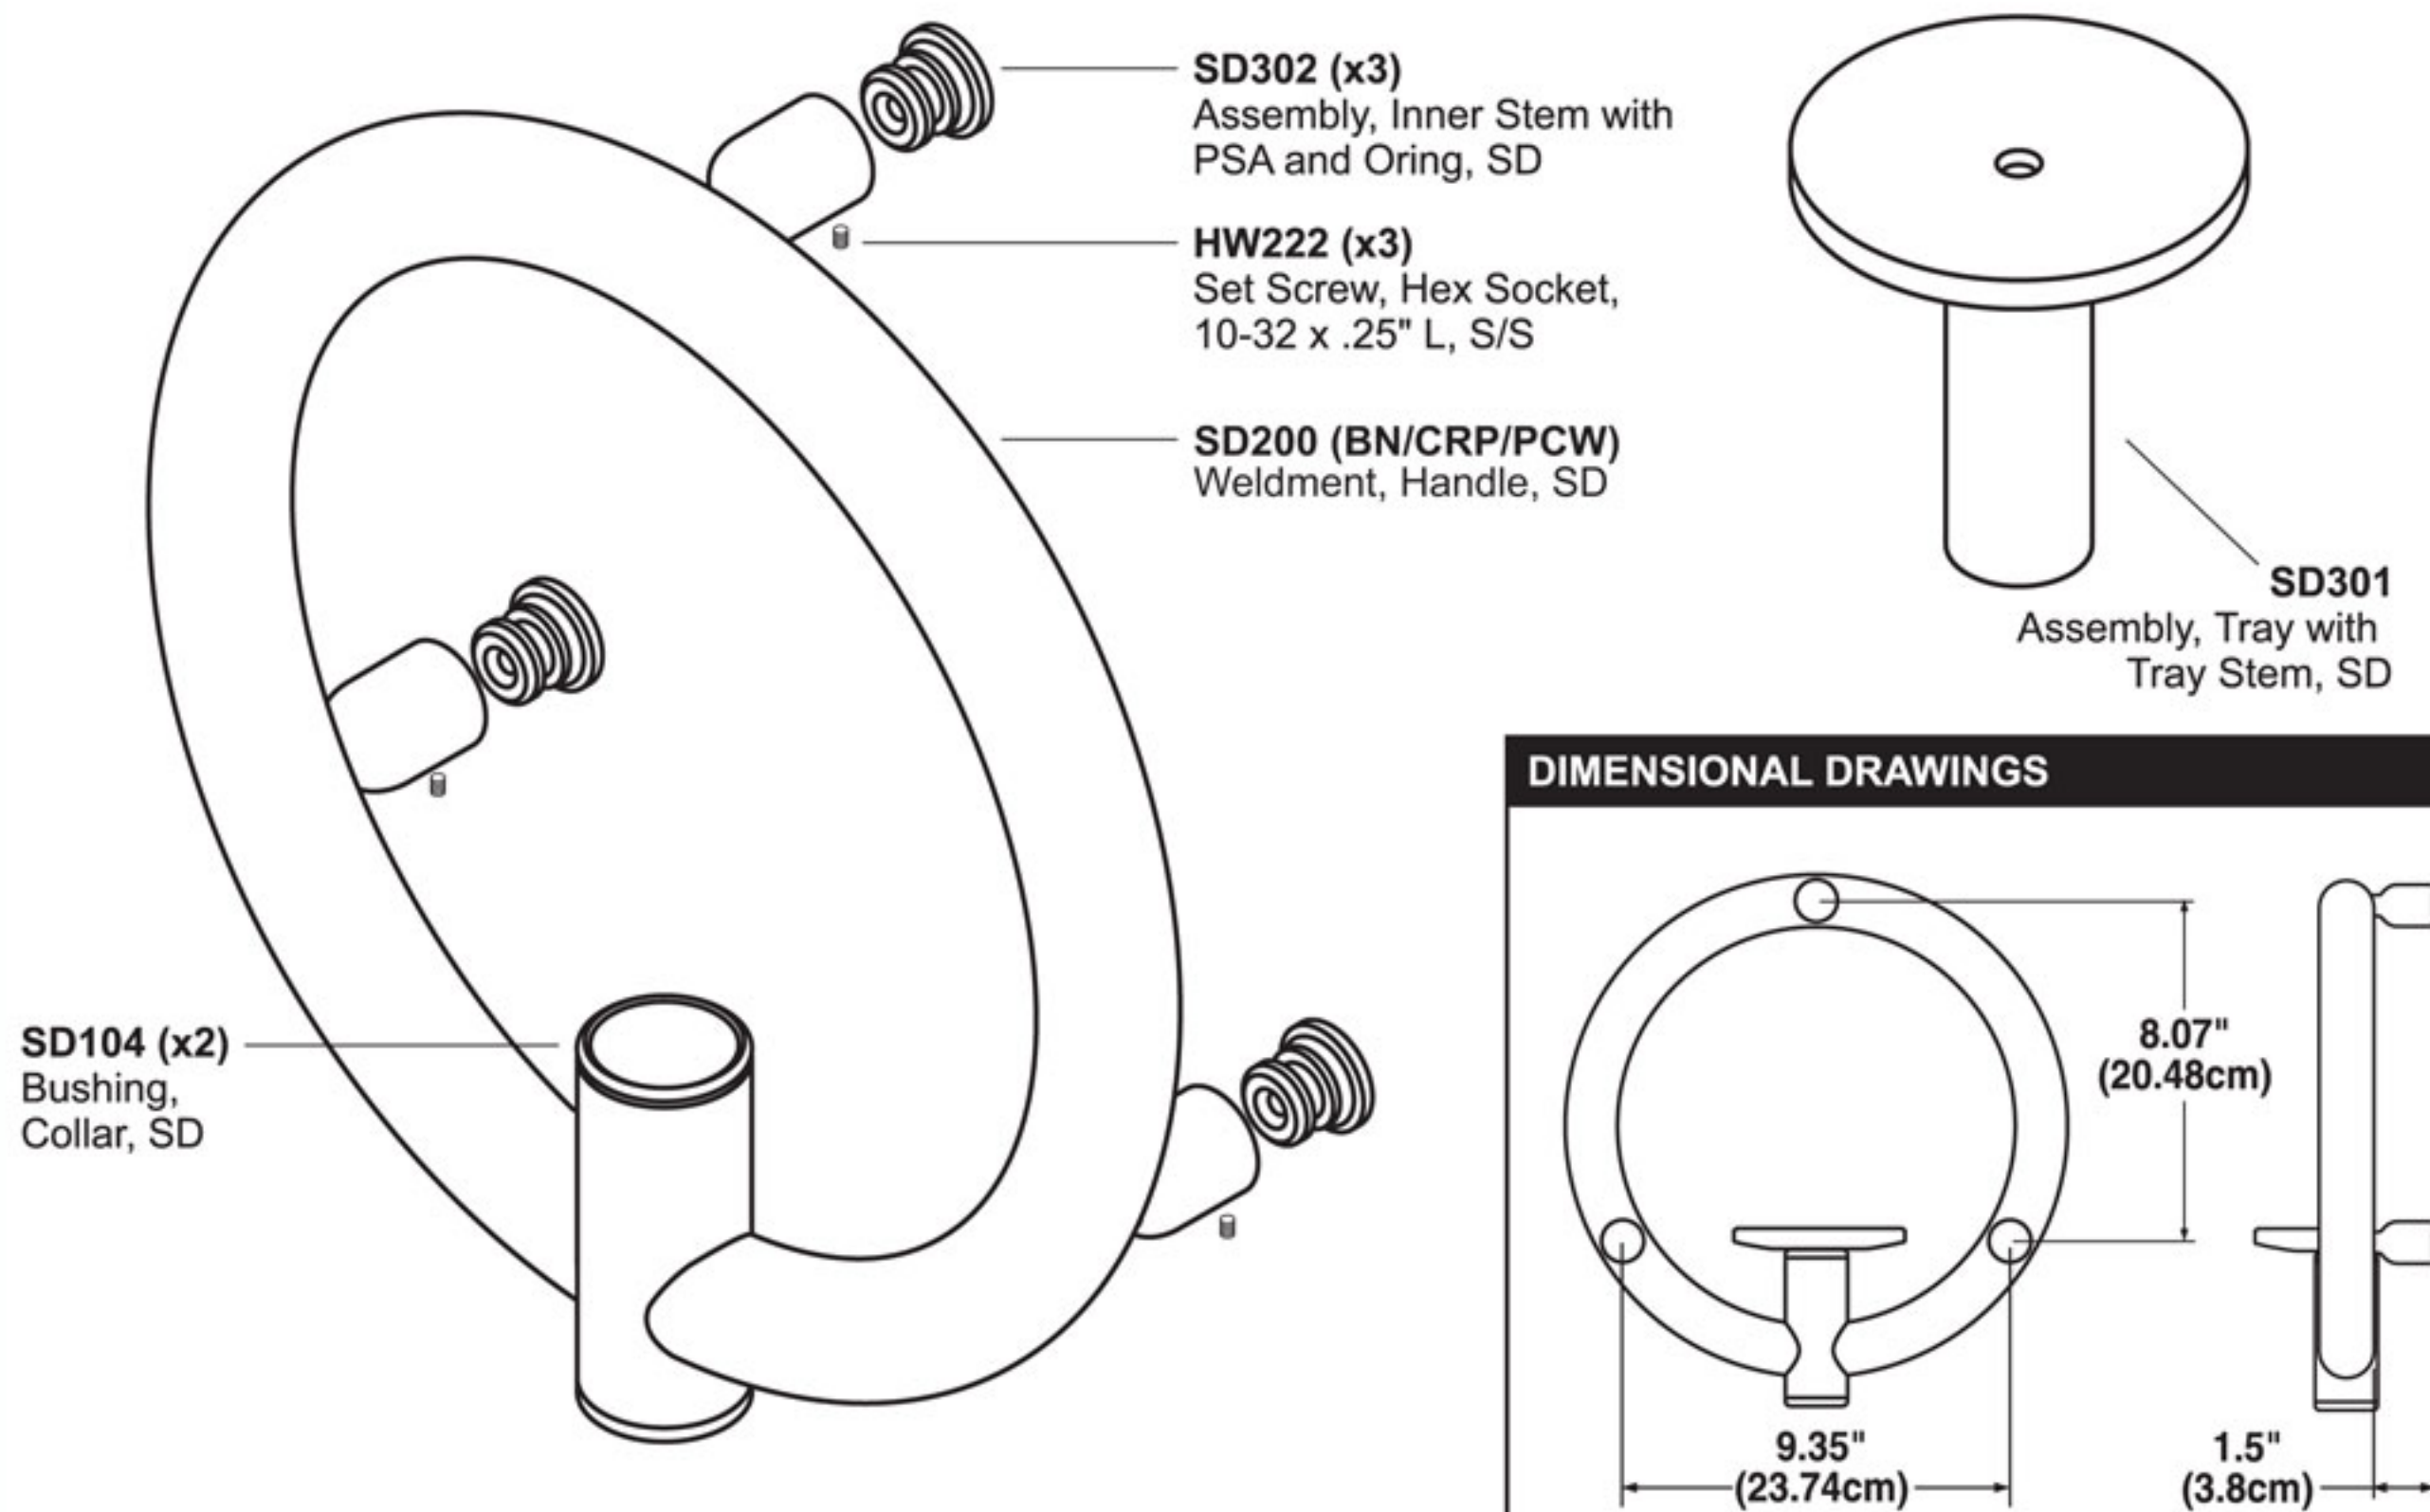

**FIGURE 3: ALTERNATIVE TO SUPPORT FRAME - MULTI-LAYER PLYWOOD INSIDE WALL WITH WALLBOARD PATCH (TOP VIEW)**
3. Fabricate a support frame structure from suitable wood pieces as shown in **Figure 2b**. Support frame width (D) should fit snugly within wall studs. Support frame height (E) should be from 24-32" (61-81cm) high or more, depending on material and stiffness of wall studs. Locate top cross member (F) to position in line with top rail stem when rail is located at the height (H). Lower cross member (G) should be spaced at C = 8" (20.5cm) center to center from top cross member. Hold the support rail against the support frame to confirm the cross members are in the correct location. Use a generous quantity of wood screws and glue to hold the support frame structure together as shown. See alternative to support frame as shown in **Figure 3**.